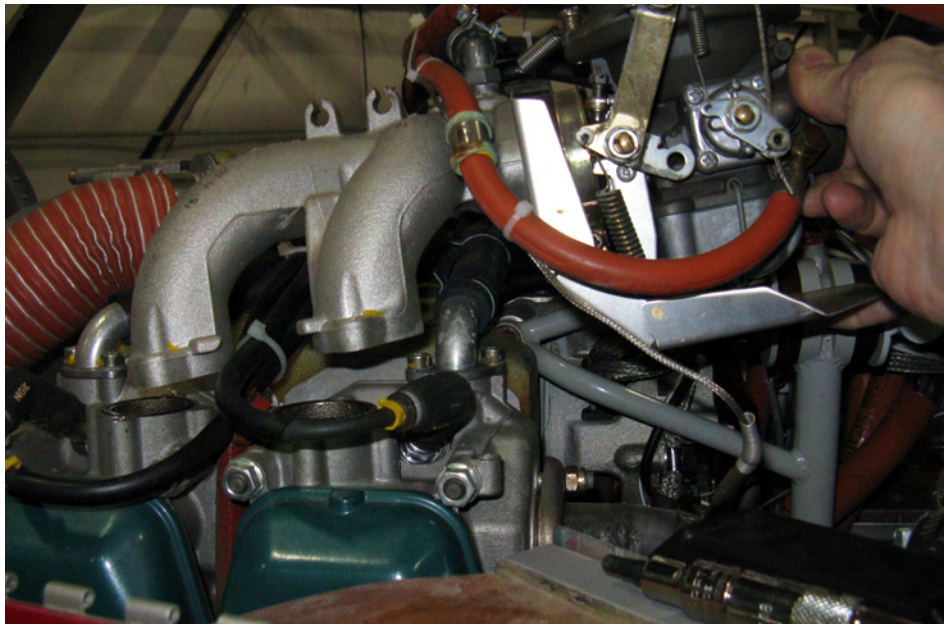

Figure 1: Remove Left Hand Induction Manifold
Step 1: Remove the Left Hand induction manifold from cylinders 2 & 4 by removing the 4 M6 Allen screws. See Figure 1.